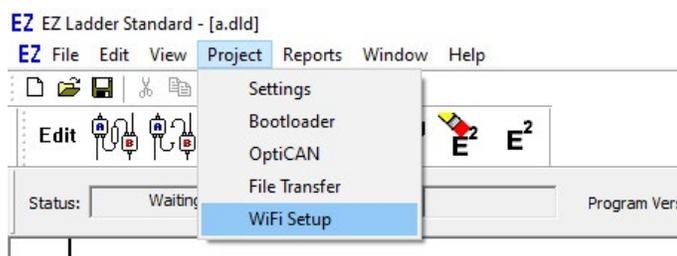

Figure 2-40 - Access WiFi Setup
4. From the menu at the top, select **PROJECT** then select **WiFi Setup**. Refer to Figure 2-40.